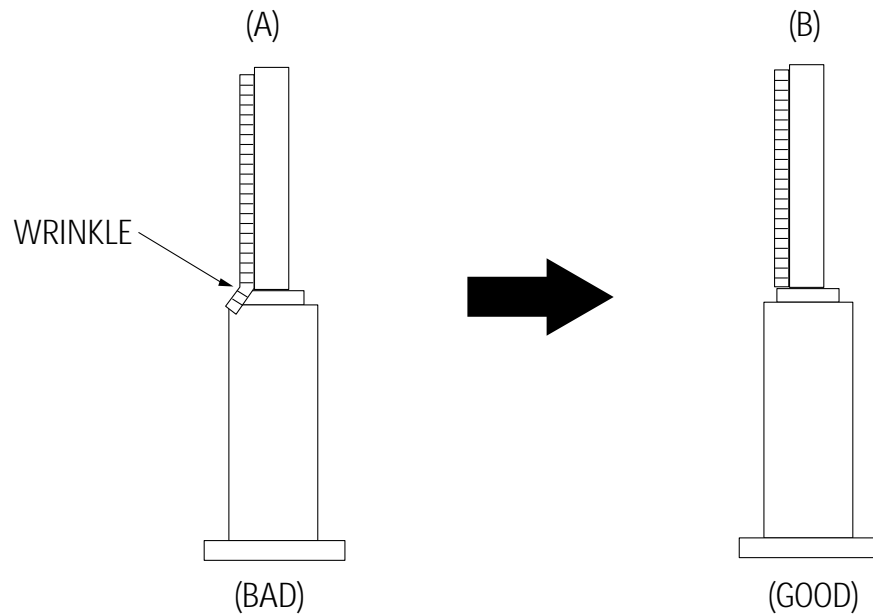

Fig. 3-12 Tape Guide Check
- 2) Confirm that there is no curl or wrinkle at the lower flange of tape guide as shown in Fig. 3-12 (B).
- 3) If a curl or wrinkle of the tape occurs, slightly turn the screw (A) tilt adjust on the ACE head ass'y.